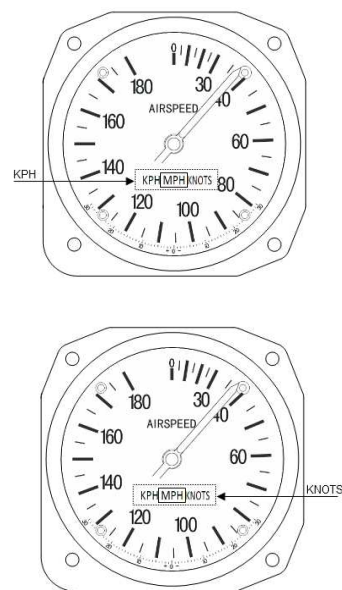

Fig. 2 The bar of airspeed units
A small-print scale showing any correction factors can be found below the airspeed scale (Fig. 2 Left). If a constant error is observed in the air speed sensing system, hold down ⊕ and ⊖ at the back of the indicator (Fig. 2 Right) for 3 seconds to enter correction factor setting where current correction factor stored can be reviewed (default factor set by manufacturer is 1±0%). Press ⊕ / ⊖ once to increase/decrease correction factor by 1%; the pointer move to the adjacent marker. The maximum adjustment of correction factor is ±30%, i.e. the correction factor ranges from 0.7 to 1.3. The indicator enters working mode automatically if there is no input from either button for 6 seconds.
- To change to KPH, flip up the sticker covered over the unit-changing hole in the left of the indicator front face (Fig.2 Middle), insert a screwdriver/stick into the hole to push the bar inside the indicator towards right until a complete 'KPH' can be seen in the window (Fig.2 Top). Reapply the sticker cover after changes are made.
- To change to KNOTS, flip up the sticker covered over the unit-changing hole in the right of the indicator front face, insert a screwdriver/stick into the hole to push the bar inside the indicator towards the left until a complete 'KNOTS' can be seen in the window (Fig.2 Bottom). Reapply the sticker cover after changes are made.
If the airspeed indicator does not read 0 when the actual airspeed is 0, wait till one minute after the indicator is power on and the pointer is stable, hold down ⊕ for 6 seconds to reset the pointer to 0. Please note that while calibrating, the pressures at the 'P' and 'S' openings (Fig.2 Right) must be equal. It is recommended to connect the two openings with a tube.